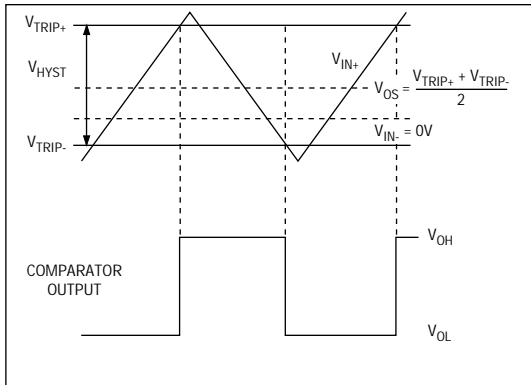

Figure 1. Input and Output Waveforms, Noninverting Input Varied
- Note 1:** Trip Point is defined as the input voltage required to make the comparator output change state. The difference between upper (VTRIP+) and lower (VTRIP-) trip points is equal to the width of the input-referred hysteresis zone (VHYST). Specified for an input common-mode voltage (VCM) of 0V. See Figure 1.
- Note 2:** Input Offset Voltage is defined as the center of the input-referred hysteresis zone. Specified for VCM = 0V. See Figure 1.
Adding hysteresis to a comparator creates two trip points: one for the input voltage rising and one for the input voltage falling (Figure 1). The difference between these two input-referred trip points is the hysteresis.
Figure 1 illustrates the case where IN- is fixed and IN+ is varied. If the inputs were reversed, the figure would look the same, except the output would be inverted.